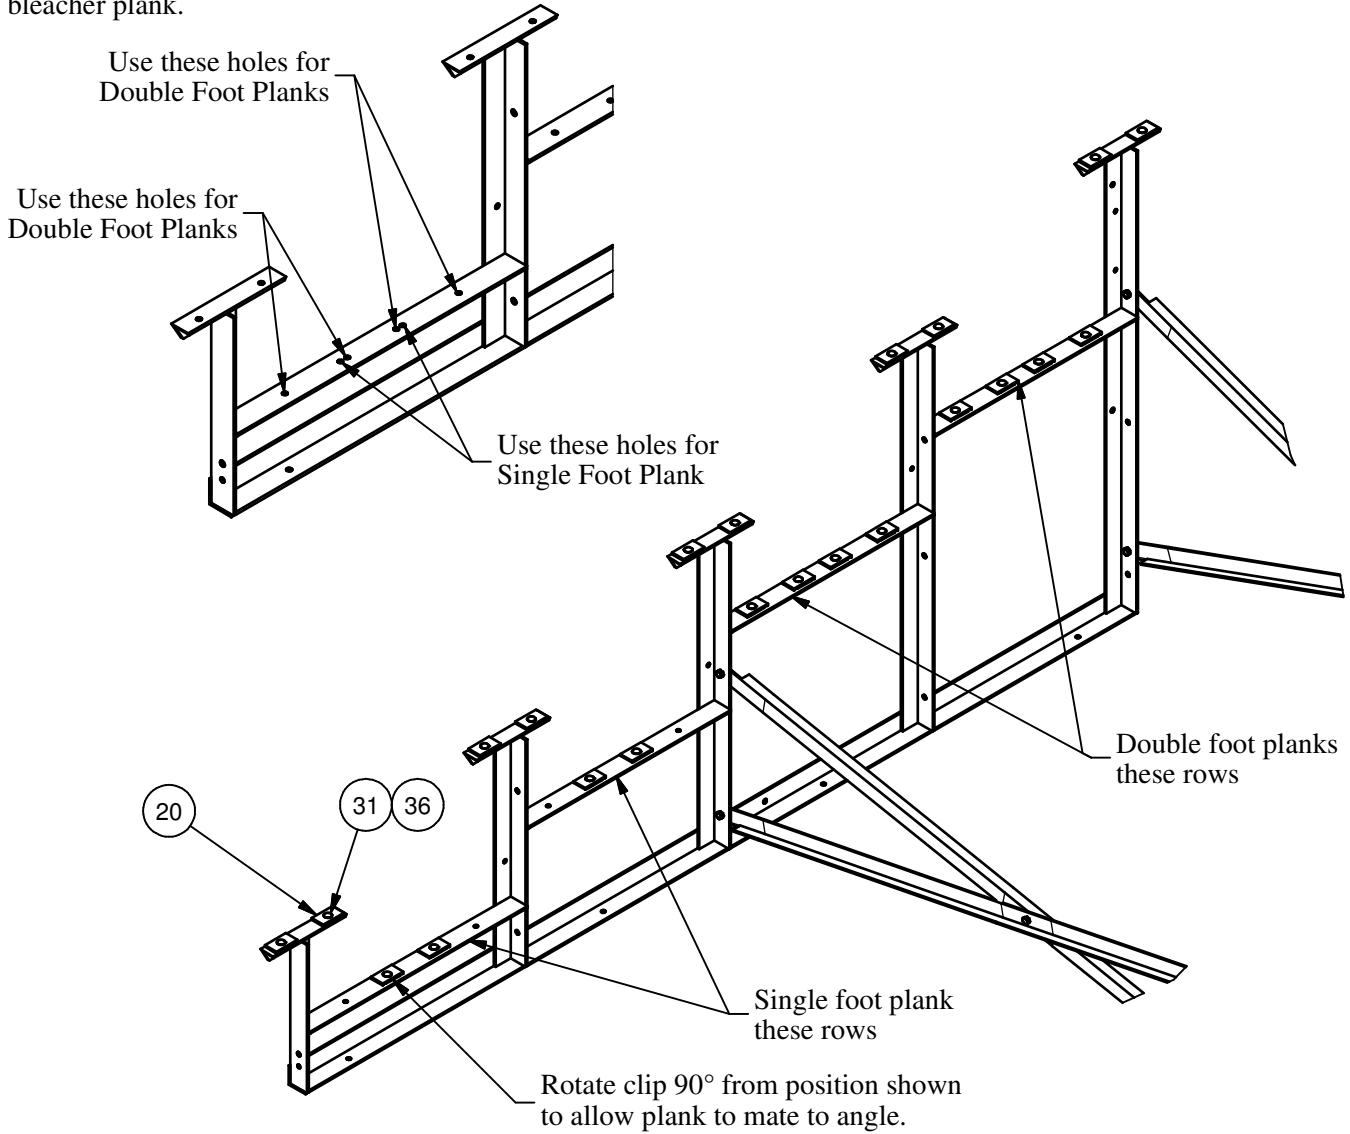

Figure 4
8. Install the seat planks using the mounting clips, 5/16" x 1" carriage bolts, and 5/16" whizlock as shown in figure 4. Note: these mounting clips, bolts, and nuts are required at every frame position.